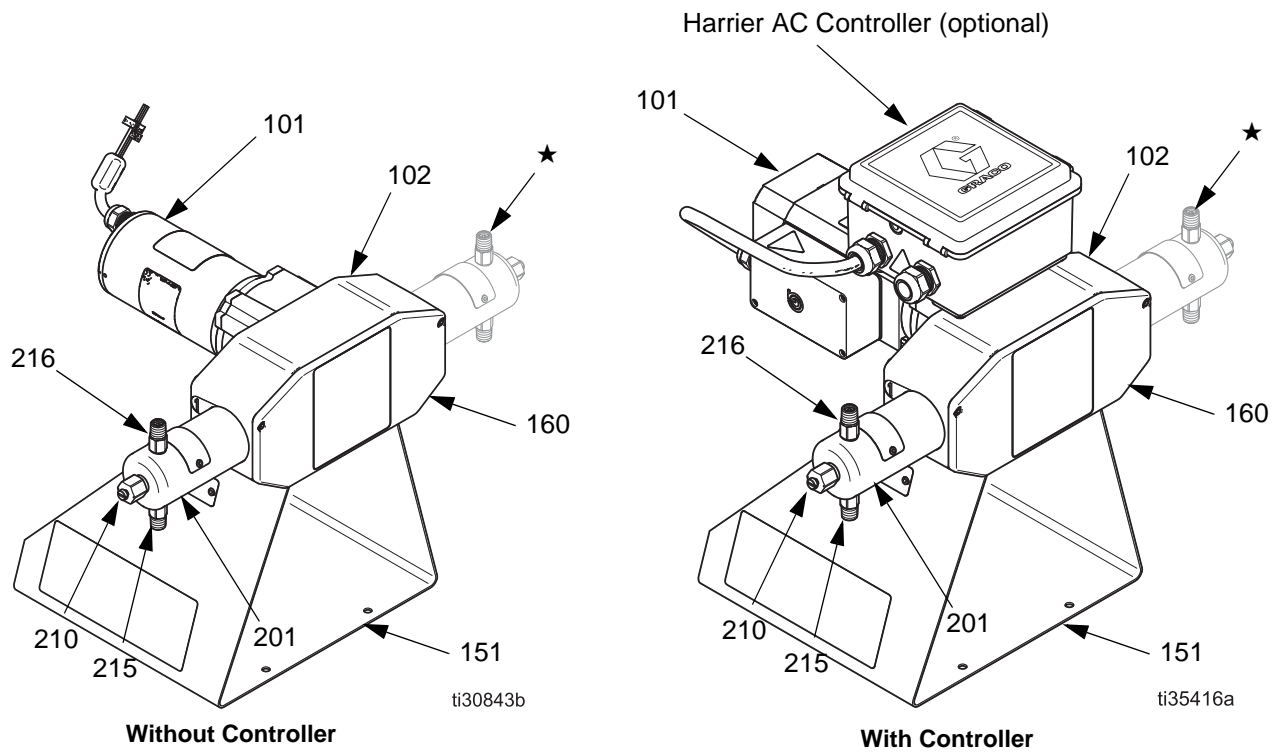
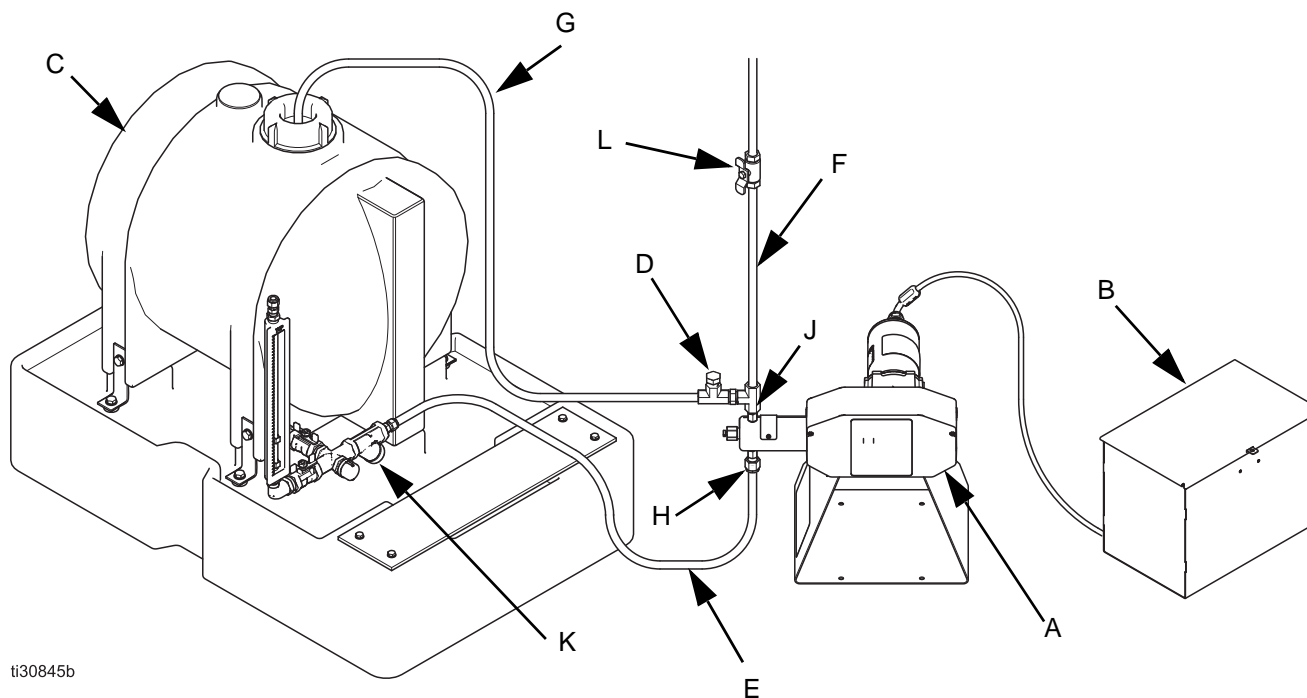

FIG. 4 G-Chem Pump Components
FIG. 5 Typical Installation in Ordinary Location with Generic Power Source
FIG. 5 is an example of an installation with a G-Chem chemical injection pump. Your installation may differ from what is shown here. (See **Accessories** on page 12.) The G-Chem pump (A) is the only component in FIG. 5 supplied by Graco. All other components are supplied by customer.
- If you have a mounting configuration that requires installation in a manner different than depicted in FIG. 5, please contact your Graco distributor for assistance.
1. Remove and discard caps on check valves (215 and 216). See FIG. 4 on page 11.
2. Connect a 1/4 npt(f) fluid line from the fluid source to the inlet check valve (215).
3. Install a pressure relief valve (D) on the outlet side of the pump. See FIG. 5 on page 13.
2. Shut off the inlet and outlet lines using shutoff valves (L). See FIG. 5 on page 13.